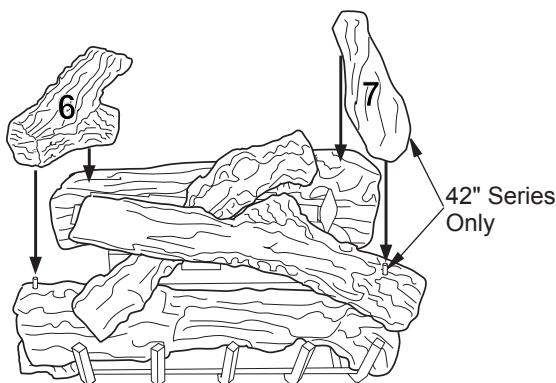

Figure 49 - Installing Log No. 6 and No. 7
- Place log #6 (left log) onto left pin of front log (#2) and the smooth surface of rear log (#3) as shown in Figure 49. Make sure it is seated properly.
- For (V)V42A series only, place log #7 onto right pin of top log (#5) as shown in Figure 49. Make sure it is seated properly.